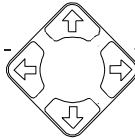

Figure 25: Navigation Control Keys
- Using the navigation control keys on the infra-red remote control transmitter (see Figure 49), to fine tune the zoom position (that is, to slowly zoom-in at any location on the screen)², as Figure 25 illustrates